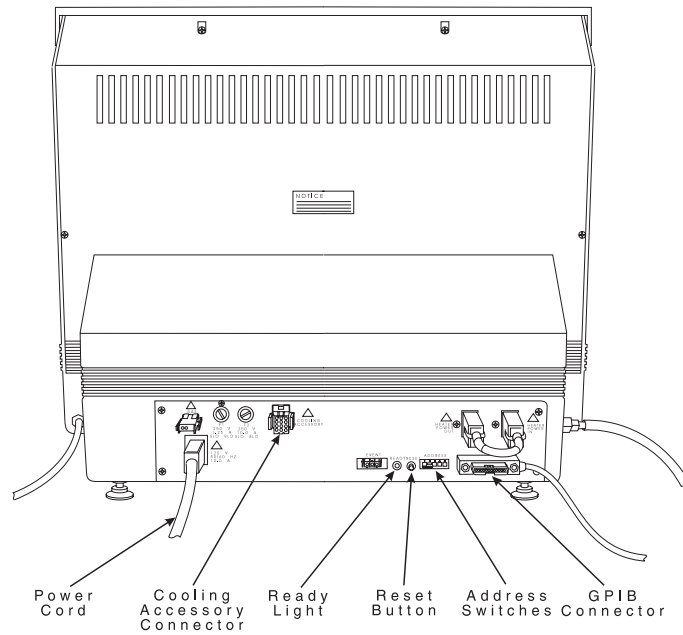

Figure 2.4
1. Locate the GPIB connector on the right rear of the DSC 2910 (see Figure 2.4).